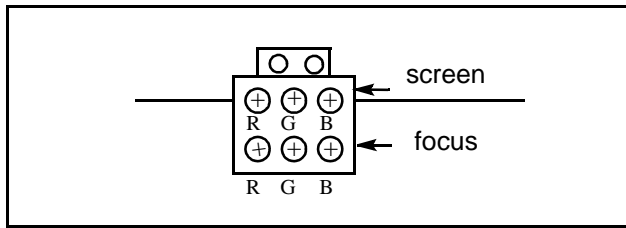

Figure 28. **Focus pack**
4. Adjust the red, blue and green focus VR on the focus block for best focus of overall picture of each CRT. (figure 28)